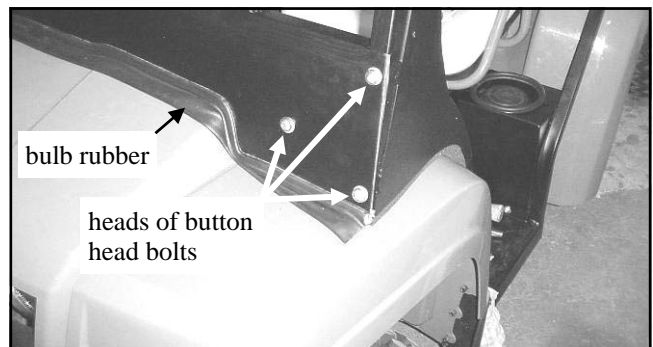

Fig. 12.1
12.1 Install the cowl to the side frames as shown in figure 12.1. Make sure the bulb rubber is laying forward towards the front of the vehicle as shown. The two outboard bolts go into factory installed threaded inserts in the side frames. Use two  $5/16 \times 3/4$ " long button head bolts, two plastic washers, and two steel washers per side.
12.2 Connect the cowl to the front brackets using one button head bolt  $5/16 \times 3/4$ " long, one plastic washer, two steel washers, and one locknut per side. Bolt heads to be facing towards the front of the vehicle. Note: a screwdriver or similar device may be used to assist in lining up these last two holes with their respective holes in the front brackets. See fig. 12.1.